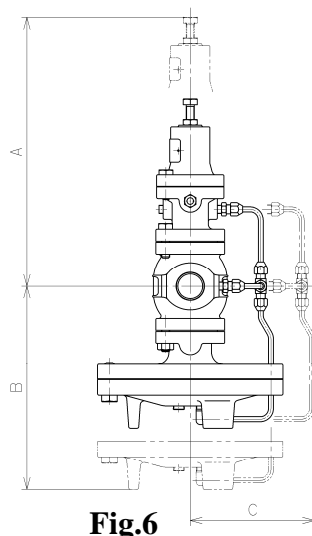

Fig.6
- (1) Install the valve perpendicularly to horizontal lines.
- (2) Provide the by-pass line. (See 6.1 Example of piping)
- (3) When the pressure reducing ratio is large, install a reducer to keep the flow velocity in the pipe below 30 m/s or less.
- (4) Provide space on the top and bottom of the valve so that the valve can be easily disassembled and inspected. (See **Fig.6**)